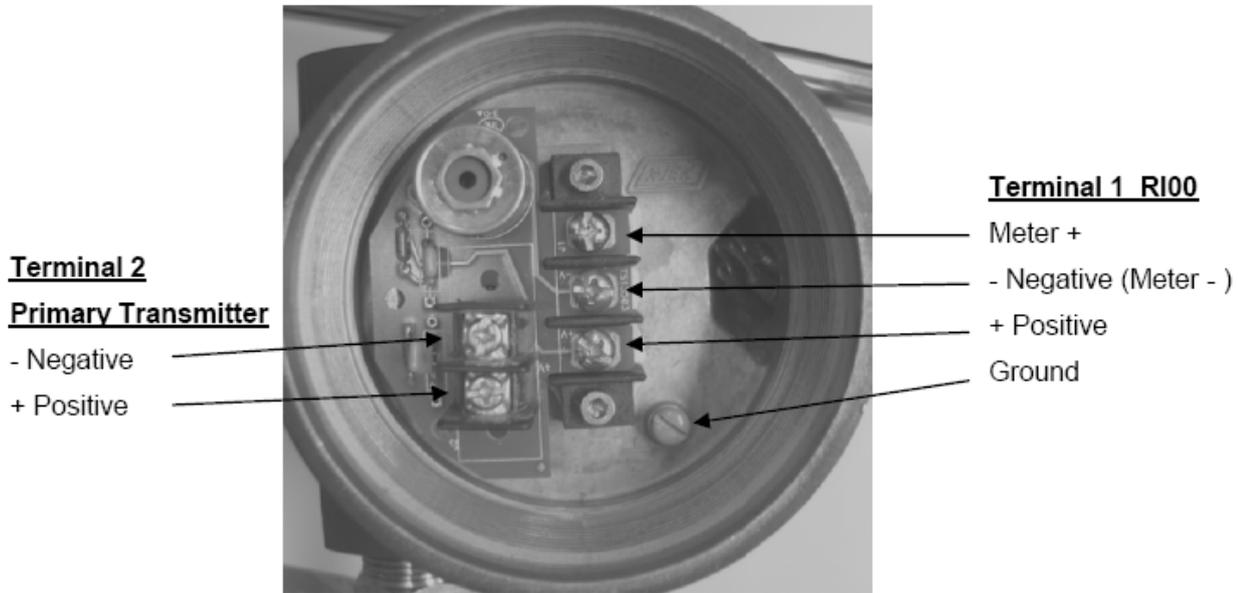

Figure 1
**The “+Meter” and “-Meter” terminals are available to hook up a mA meter to monitor loop current, without breaking the loop (see Figure 1 on page 6).*